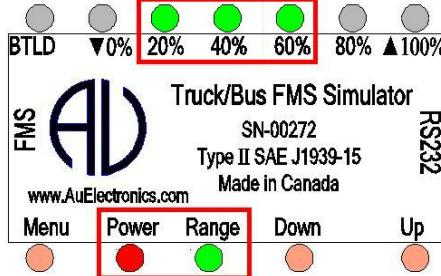

Figure 3-5 Power, Range, 20%, 40%, 60% LED on, indicating data range is from 61% to 79%
- If keep pressing Up button, the control step value will keep increasing. The 20%, 40%, and 60% LED will be on, as shown in Figure 3-5. It indicates the data range from 61% to 79%.